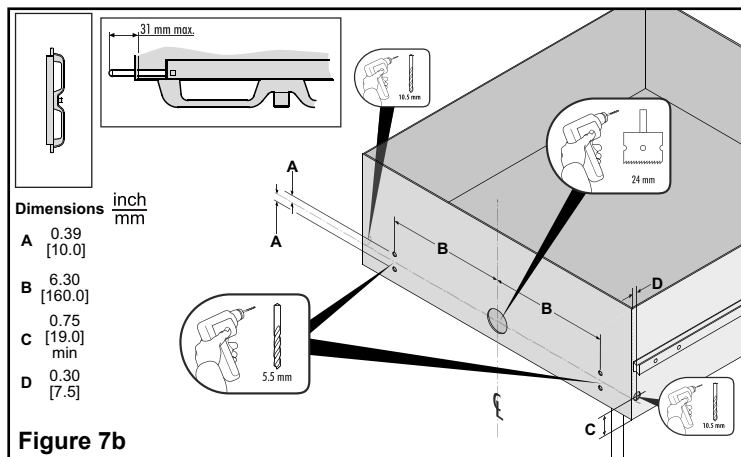

Figure 7b
*For installations where the handle is positioned on the front of the drawer box, with the mechanism inside, see **Figure 7b**.*
2. The lock mechanism may also be installed inside the drawer. Care must be taken with the measurements to ensure the mechanism (with rods attached) can be installed into the space and operate without interference (**Figure 7b**).